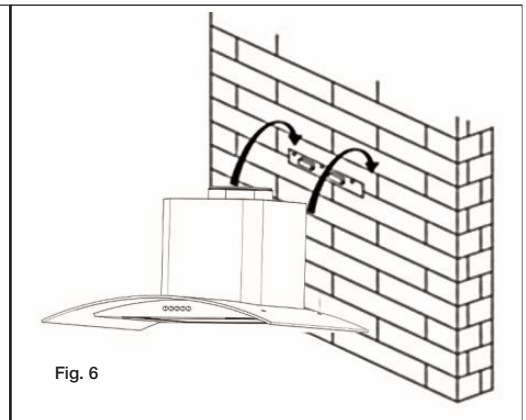

Fig. 6
- Level up the cooker hood and hang onto the wall bracket hook. (Fig. 6)